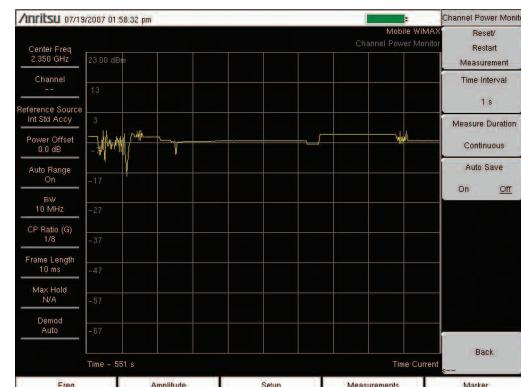

Figure 11. Channel Power Monitor (OTA) screen.
5. Press the Channel Power Monitor soft key. The red dot on the soft key indicates it is selected (Figure 11).